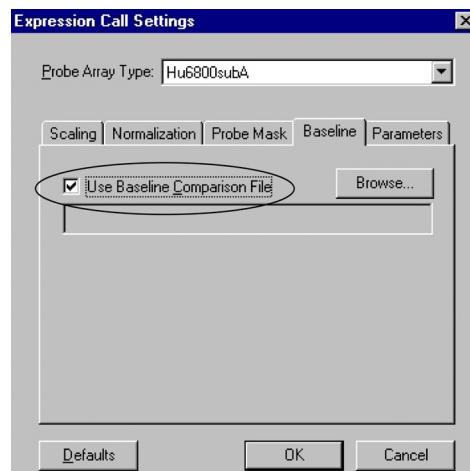

Figure 4.1.8
⇒ The Expression Analysis Settings dialog box appears (Figure 4.1.8), if chosen as a default option.
3. Click the **Baseline** tab of the Expression Analysis Settings dialog box and select the **Use Baseline Comparison File** option (Figure 4.1.8).